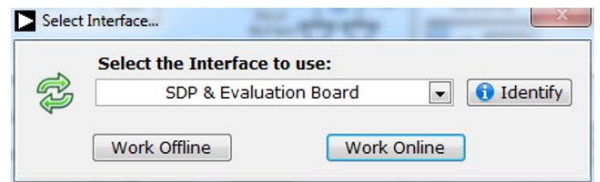

Figure 6. Select Interface Dialog Box
2. After the drivers are installed, check that the board has connected correctly by looking at the **Device Manager** of the PC. The **Device Manager** can be found by right clicking **My Computer**, selecting **Manage**, then **Device Manager** from the list of **System Tools** (see Figure 6).